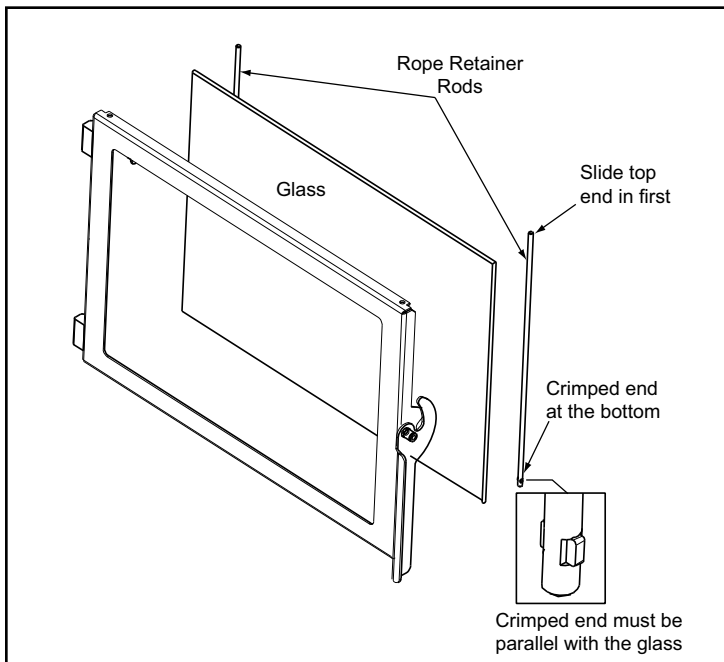

Figure 34.1
- d. Slide the retainer rod into the top hole first, and then line up the bottom crimped end with the hole in the door. The crimped end must be parallel with the glass in order to insert it into place. **Figure 34.1.**